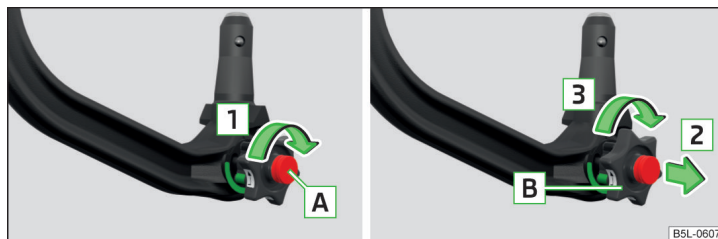

Fig. 154 Lock unlock / pull out hand wheel and turn
- Turn the key **A** in direction of the arrow **1** to the stop » Fig. 154.